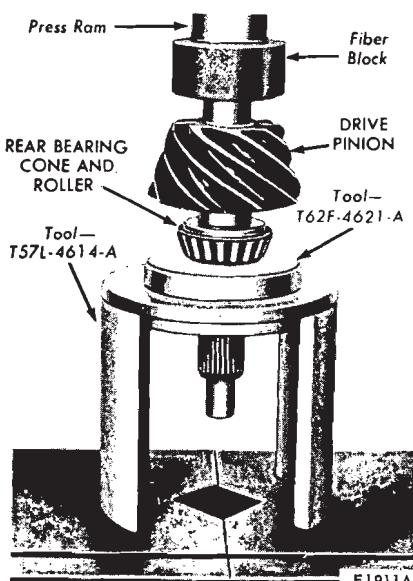

FIG. 20—Installing Pinion Rear Bearing Cone
1. Place the shim and pinion rear bearing cone on the pinion shaft. Press the bearing and shim firmly against the pinion shaft shoulder (Fig. 20).